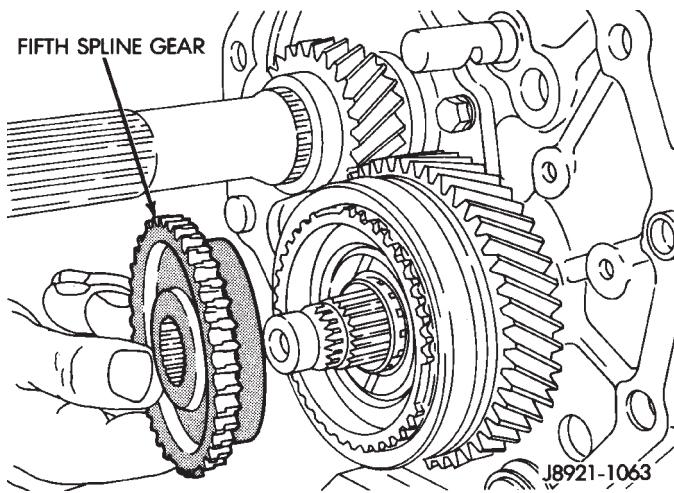

Fig. 33 Fifth Spline Gear Removal
(14) Remove fifth spline gear (Fig. 33).